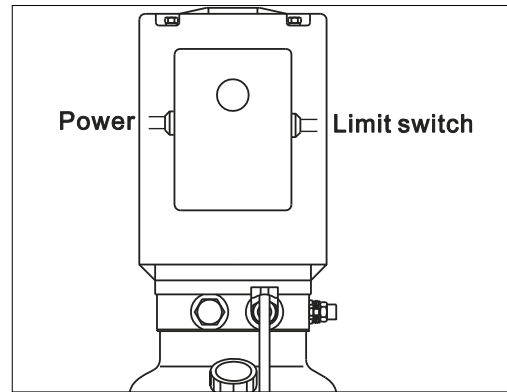

Fig. 35
4.4.3.2 Connect the power supply cable and end limit switch wire to the terminal strip on the junction box of the motor (Fig. 35) following the wiring diagram on Page 4.
4.4.3.4 Close the cover of the junction box. Press the up push button (Fig. 35), the motor rotation direction should be the one shown by the arrow on the pump.